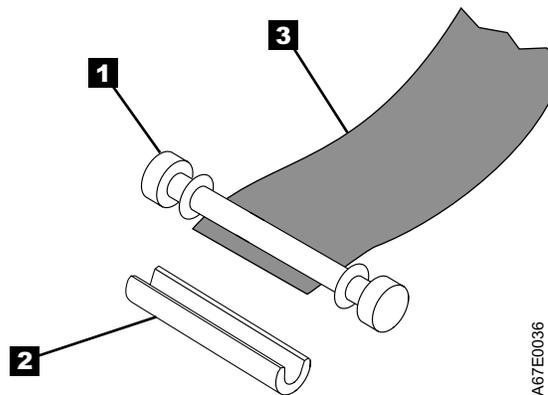

Figure 19. Removing the C-clip from the leader pin. Use your fingers to push the C-clip from the leader pin.
5. On the leader pin (**1** in Figure 19), locate the open side of the C-clip (**2**). The C-clip is a small black part that secures the tape (**3**) to the pin.